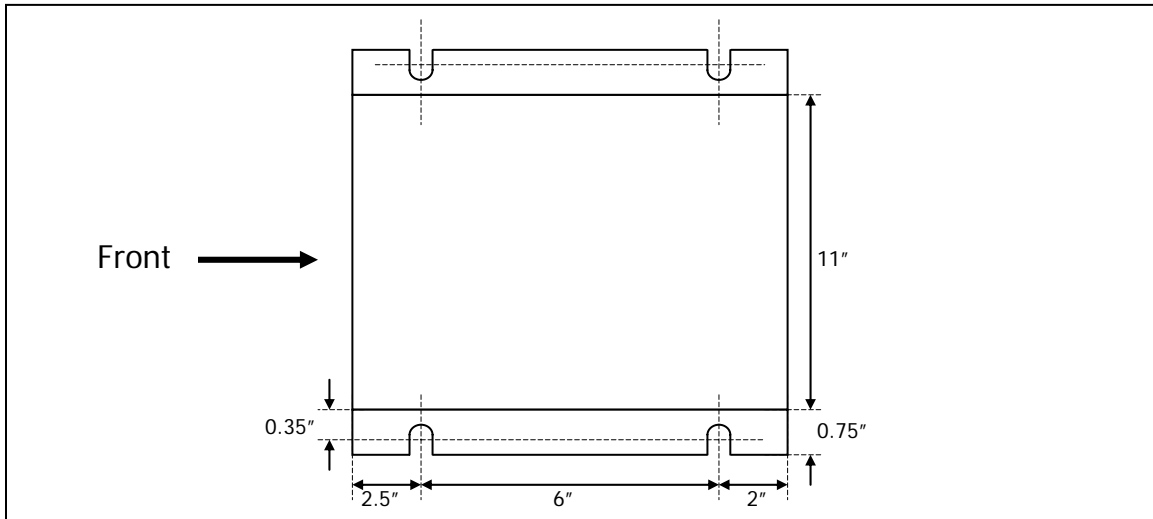

FIGURE 3: BBS Module footprint
- a) Locate the keyholes at the right and left side of the chassis flanges. See BBS module footprint on Figure 3 below.